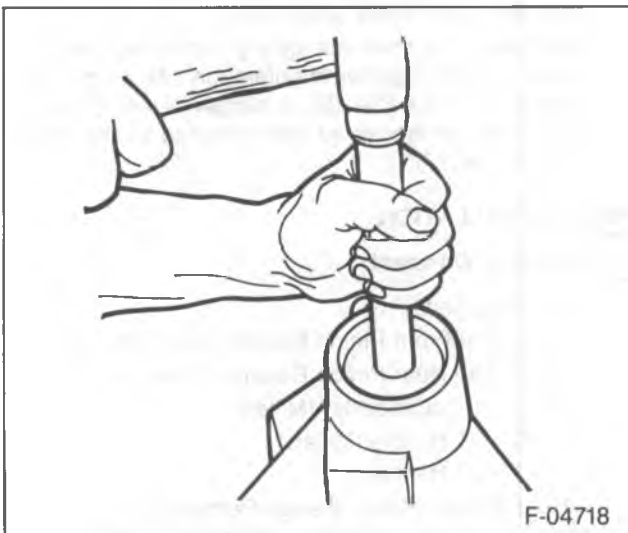

Figure 29—Installing the Pinion Front Cup
3. Drive the outer bearing cup into the axle assembly using J 7818 and J 8092 (figure 29).